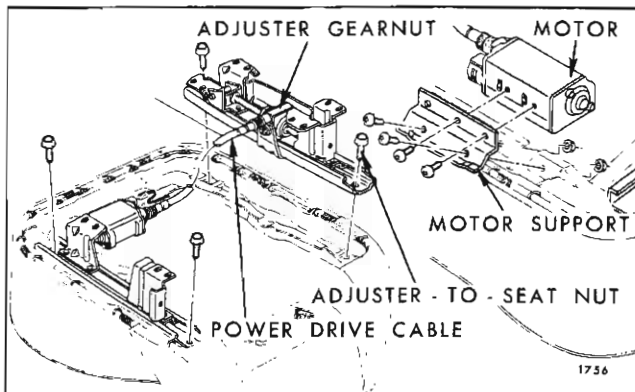

Fig. 1H22—Bucket Seat Adjuster and Motor Two-Way Power
4. Remove adjuster-to-seat bottom frame front and rear attaching bolts and remove adjuster from seat assembly (Fig. 1H22).
On 30000 series check that 1/4" spacer is installed between adjuster and seat bottom frame at front attaching locations only. Make sure ground wire is secured under adjuster rear attaching nut (Fig. 1H18).